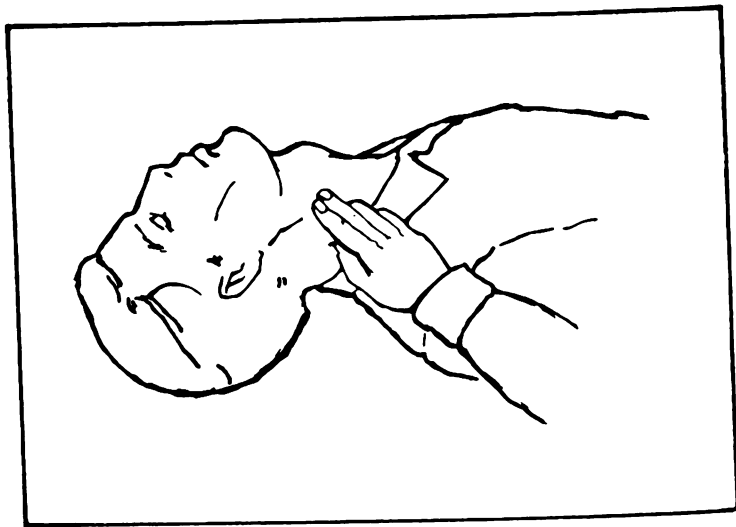

Figure 2.
11. Immediately check the soldier's neck for a pulse. The pulse should be found in the soft area between the Adam's apple and the large muscle on the side of the neck. (Figure 2).